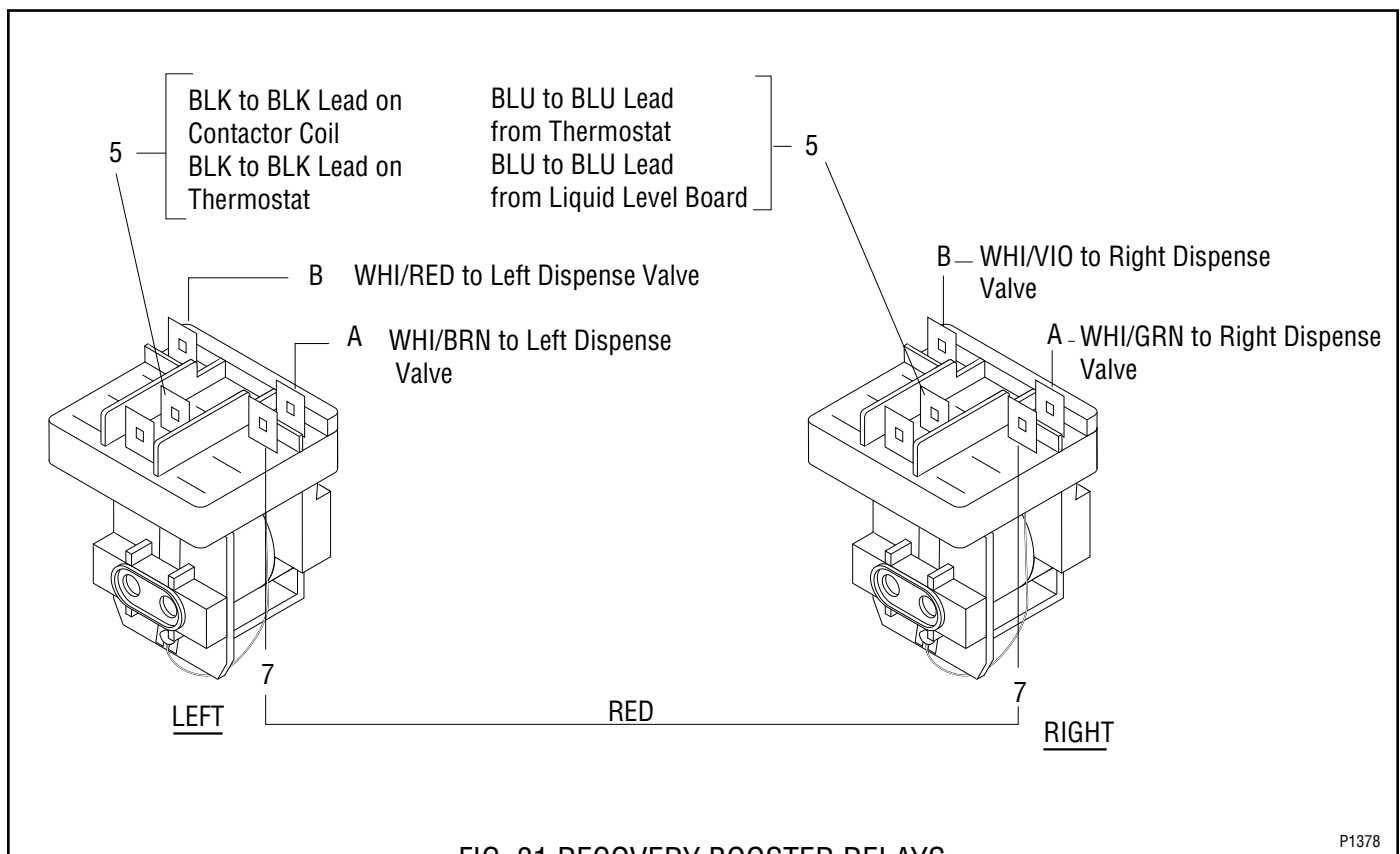

FIG. 31 RECOVERY BOOSTER RELAYS
5. Refer to Fig. 31 when reconnecting the wires.